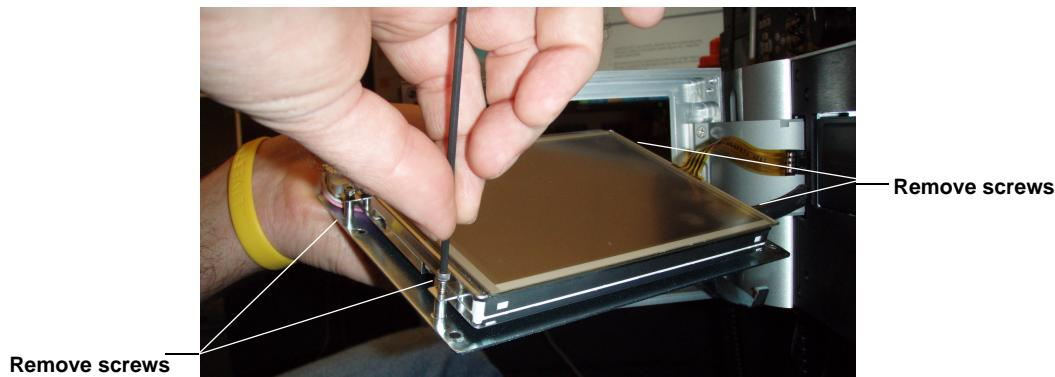

Figure 7 Remove Four Screws Securing Touch Screen to Support Panel
5. Using a 3/32-inch hex wrench, remove the four screws securing the touch screen to the support panel, as shown in Figure 7, then place the support panel aside.